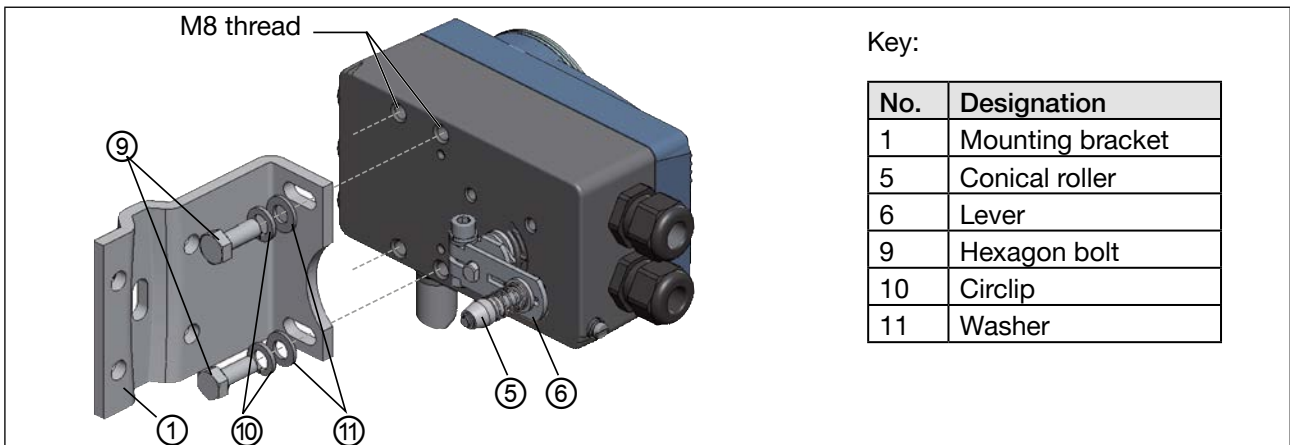

Figure 15: Attaching the mounting bracket
→ Attach mounting bracket ① with hexagon bolts ⑨, circlips ⑩ and washers ⑪ to the rear side of Type 8792/8793 (see “Figure 15: Attaching the mounting bracket”).
The conical roller on the lever of the position sensor must be able to move freely in the hoop (see “Figure 15: Attaching the mounting bracket”) along the entire stroke range of the actuator. The lever position should be almost horizontally when the stroke is 50% (see chapter “11.2.4 Aligning the lever mechanism”).